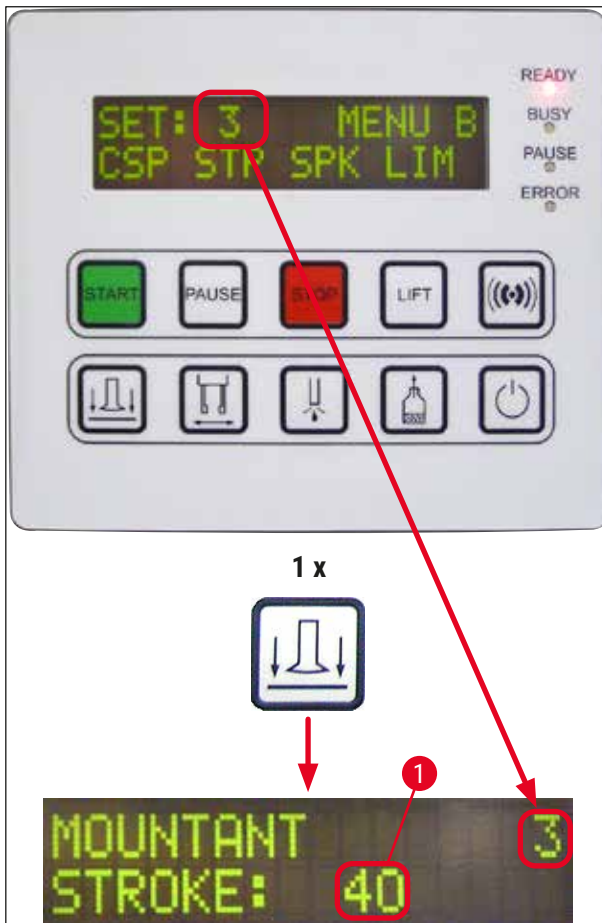

Fig. 40
1. To modify the length of the coverslip mountant stroke (**STK**), press the **RELEASE COVERSLIP** button (→ Fig. 40).